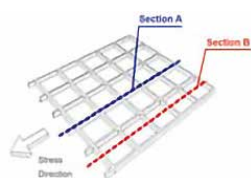

Fig. 21
- The friction between soil and the solid geosynthetic surface (Figure 21, Section A)
- The passive resistance mobilized against the bearing members/bars (Figure 21, Section B)